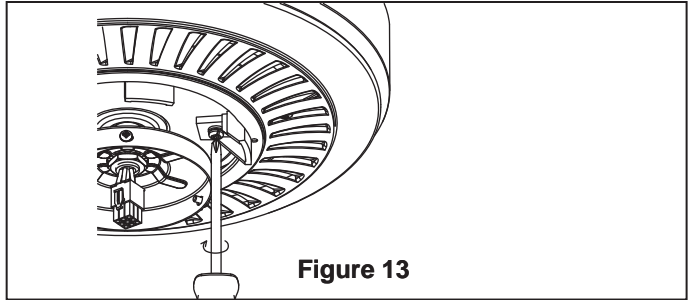

Figure 13
1. Remove and discard the (rubber) motor “stops” by removing the five screws. (Figure 13)